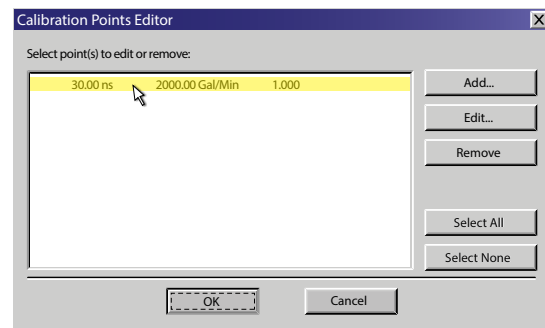

Figure 15: Calibration page 3 of 3
5. If a calibration point is displayed in *Calibration Points Editor*, record the information, then highlight and click **Remove**. See *Figure 15*.